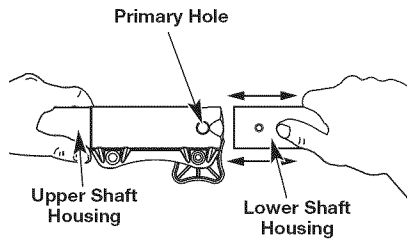

Fig. 2
- While firmly holding the attachment, push it straight into the Convertible™ coupler until the release button snaps firmly into the primary hole (Fig. 2).
- While firmly holding the upper shaft housing, pull the attachment straight out of the Convertible™ coupler (Fig. 2).